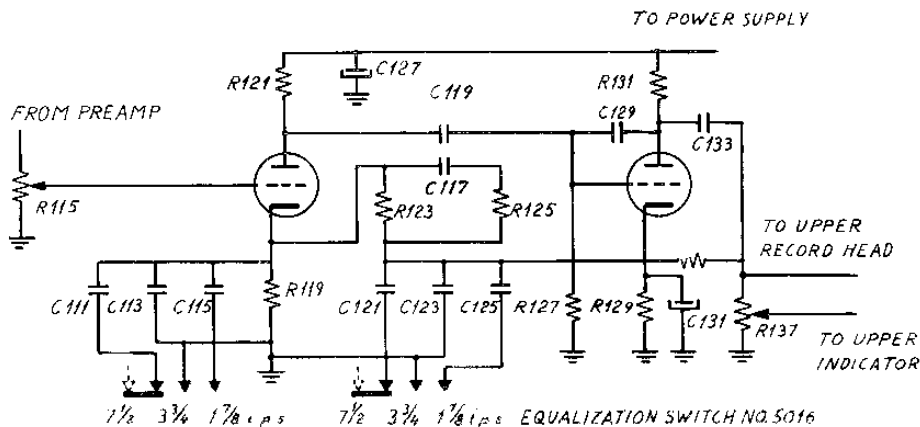

Fig. 23. Record Amplifier. (Component Numbers for Upper Track)
4.2.2 Record Amplifier. (Fig. 23).